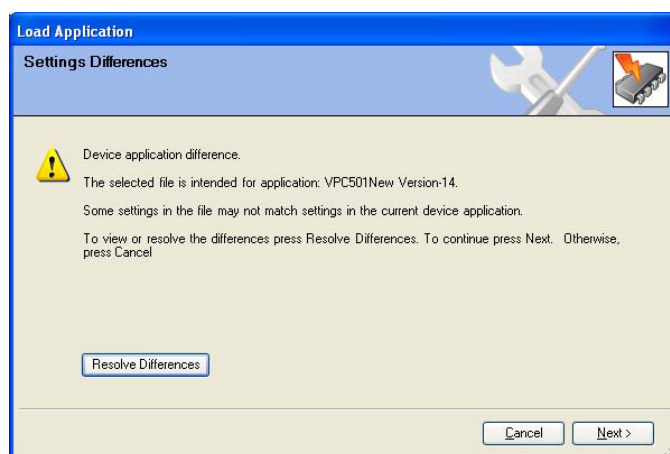

Figure 5-7. Setting Definitions Screen
11. If the display screen in Figure 5-7 pops up after the application is loaded, the conversion will not work properly. In this case, DO NOT select “NEXT” button to continue. Select the “CANCEL” button to terminate the upgrade process and contact Woodward immediately. Woodward may request the diagnostic log located under the Help Menu selection and the settings file saved before the application load.